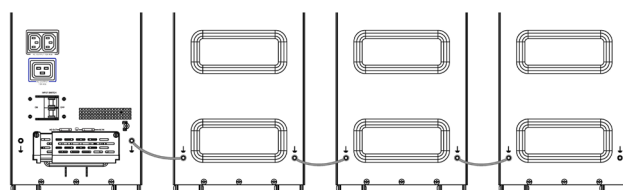

Fig. 42. Connecting several EBMs with additional earth links.
2. To add more than 2 EBMs, additional earth wires are required (10 mm section²) (Fig. 42).